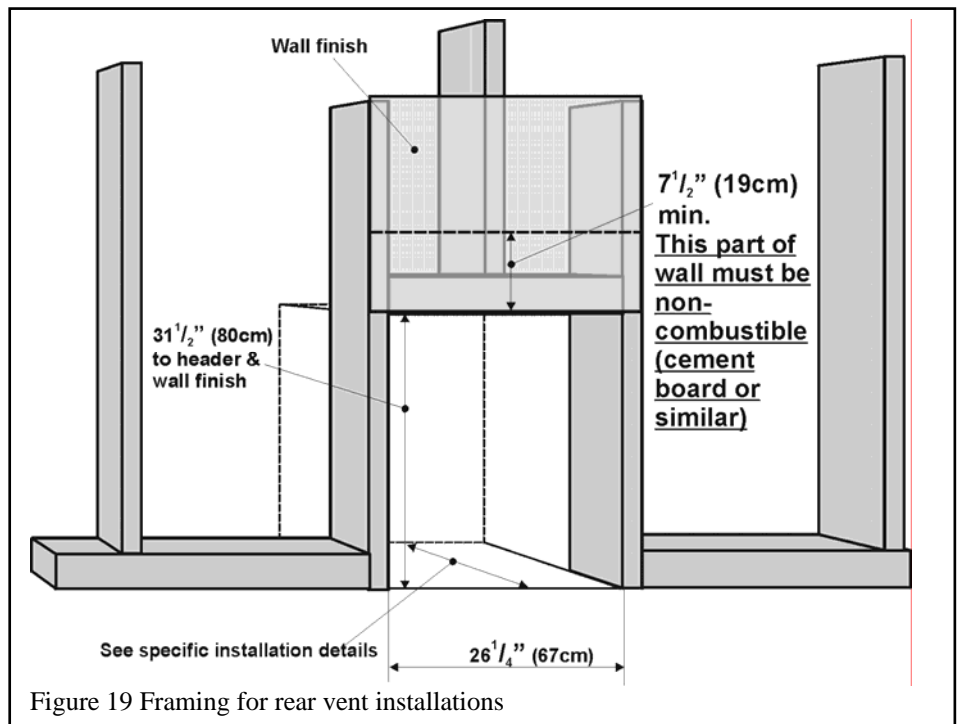

Figure 19 Framing for rear vent installations
The framing dimensions for appliances with rear vent connection are shown in figure 19.
- Be aware of the area $7\frac{1}{2}$ " x $26\frac{1}{4}$ " (19cm x 67cm) immediately above the opening which must be constructed with non-combustible materials as shown in figures 19 & 20